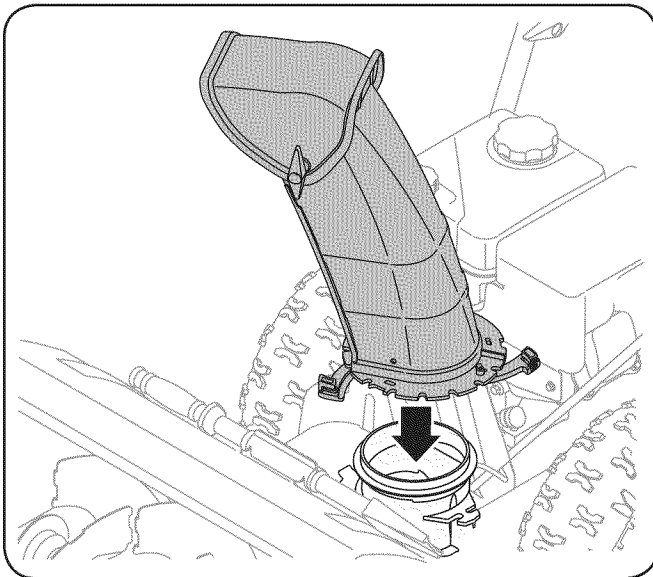

**Figure 3-18**
**NOTE:** Make certain the cables are seated properly in the roller guides. See Fig. 3-18.